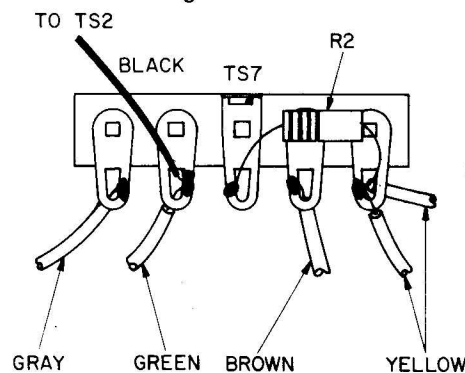

Figure 4. Filament Voltage Connections
transformer has three different voltage taps, which can be used to compensate for low or high filament voltage. Tempo 2000's are shipped with the medium (115 volt) tap connected, and may be used this way at most line voltages. However, for permanent installations, it will be best to check the line voltage and use the tap which will provide maximum tube life over a long period. Check the voltage at the wall socket to which the Tempo 2000 is to be connected during your usual operating hours. If this voltage is between 224 and 234 volts (112 to 117 volts if you are running the Tempo 2000 on a 115 VAC circuit), no change is necessary. If the line voltage is below 224 volts (112) move the black wire connected to terminal 2 of TS7 to terminal 4 of TS7. See Figure 4. If the line is above 234 VAC (117) move the black wire to terminal 1 of TS1. Note: even when using this tap, voltages over 264 VAC (132) will shorten tube life.